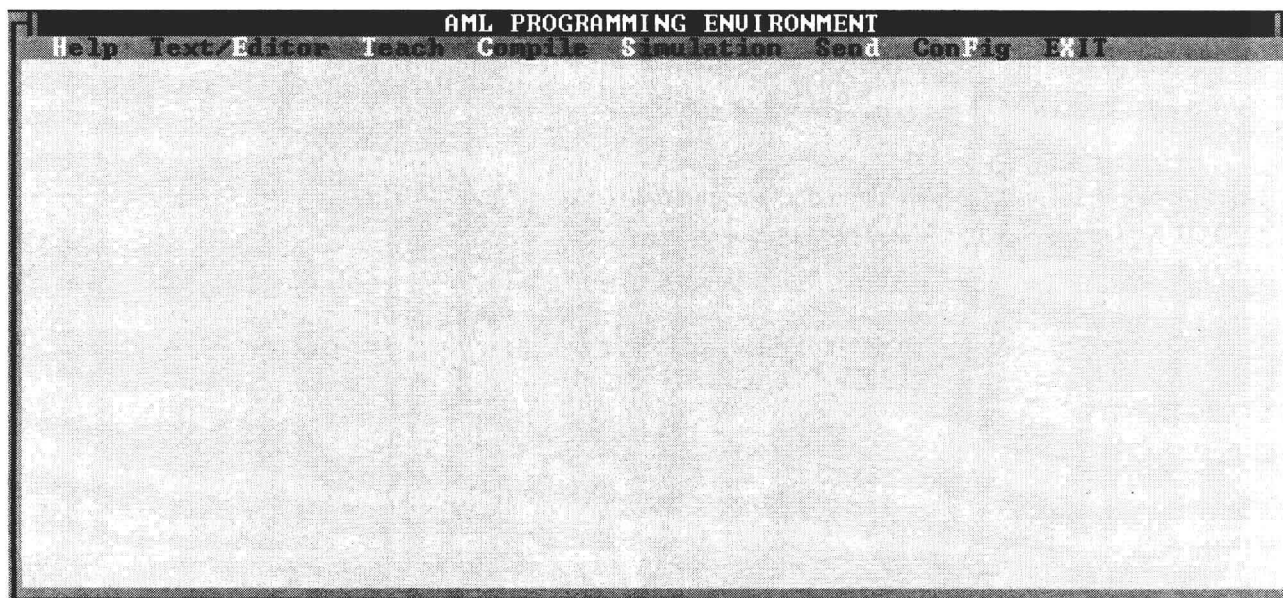

Figure 1-1 Programming Menu Screen.
3. Type AML and press ENTER. The Programming Menu will appear on screen, Figure 1-1.